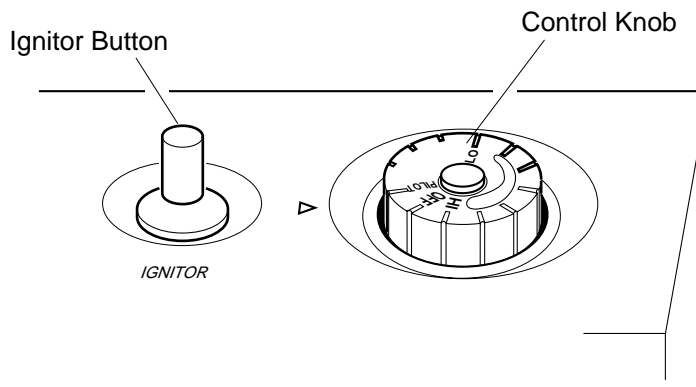

Figure 28 - Control Knob In The OFF Position
4. Wait five (5) minutes to clear out any gas. Then smell for gas, including near the floor. If you smell gas, STOP! Follow “B” in the safety information at the top of page 23. If you don’t smell gas, go to the next step.
5. Turn control knob counterclockwise  to the PILOT position. Press in control knob for five (5) seconds (see Figure 28, page 23).